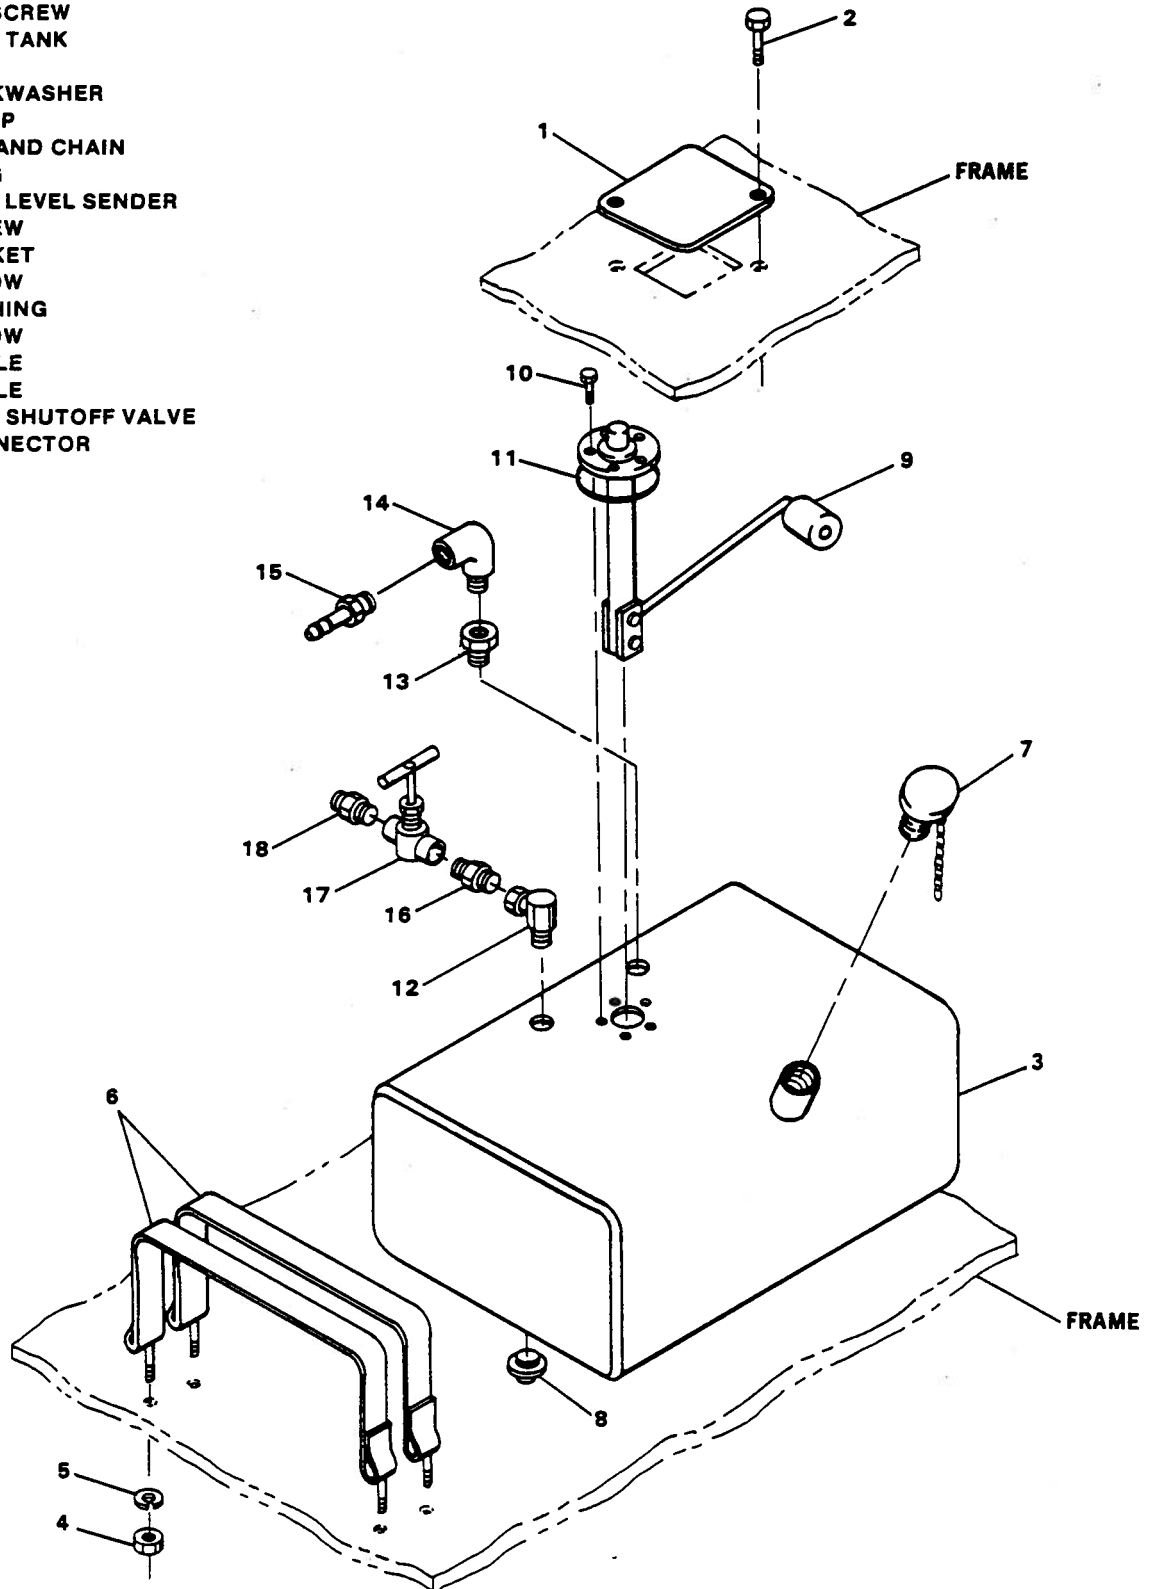

Figure 5-30. Fuel Tank Installation
5-48. DISASSEMBLY. (See figure 5-30.)
sender (9, figure 5-30) and tag. Remove plug (8) and drain fuel tank content. Fuel tank capacity is thirty gallons.
- a. Remove capscrew (2). Remove plate (1) from frame.
- b. Remove nuts (4) and lockwashers (5). Remove fuel tank (3).